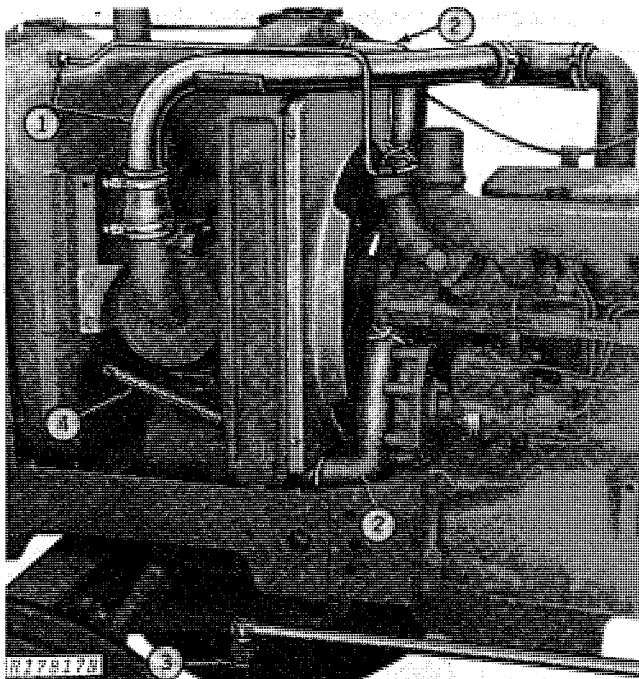

Fig. 7-Left-Hand Removal Procedures
1. Remove the air intake pipe (Fig. 7) and leak-off pipe (diesel).